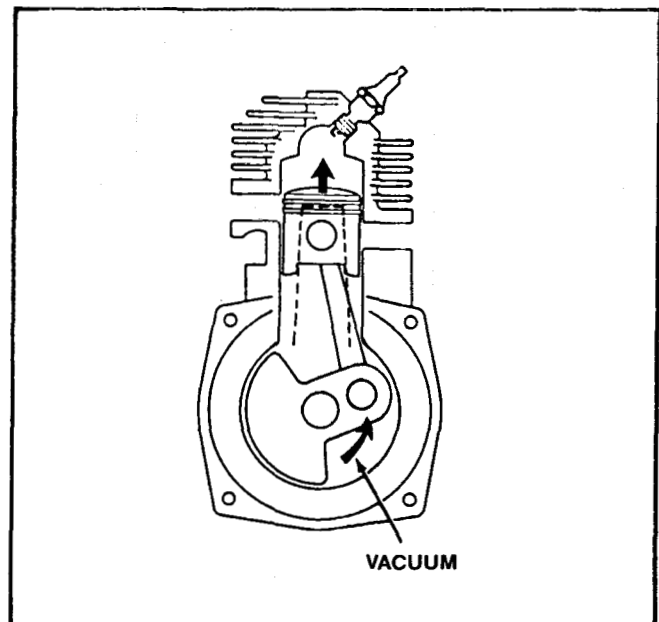

Figure 86
2. As the piston continues its upward stroke, vacuum begins to build within the lower crankcase. That vacuum will later be used to draw the intake mixture. See Fig. 86.